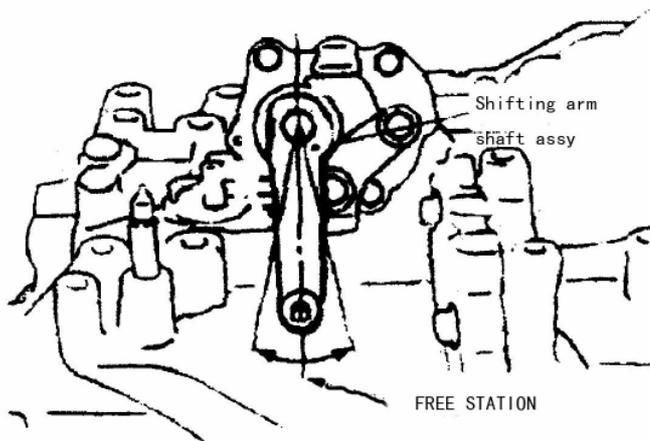

Fig.11-136
(1) shift cable and select cable assembly installation
a. move the shift lever of transmission to the N position as Fig.11-136.